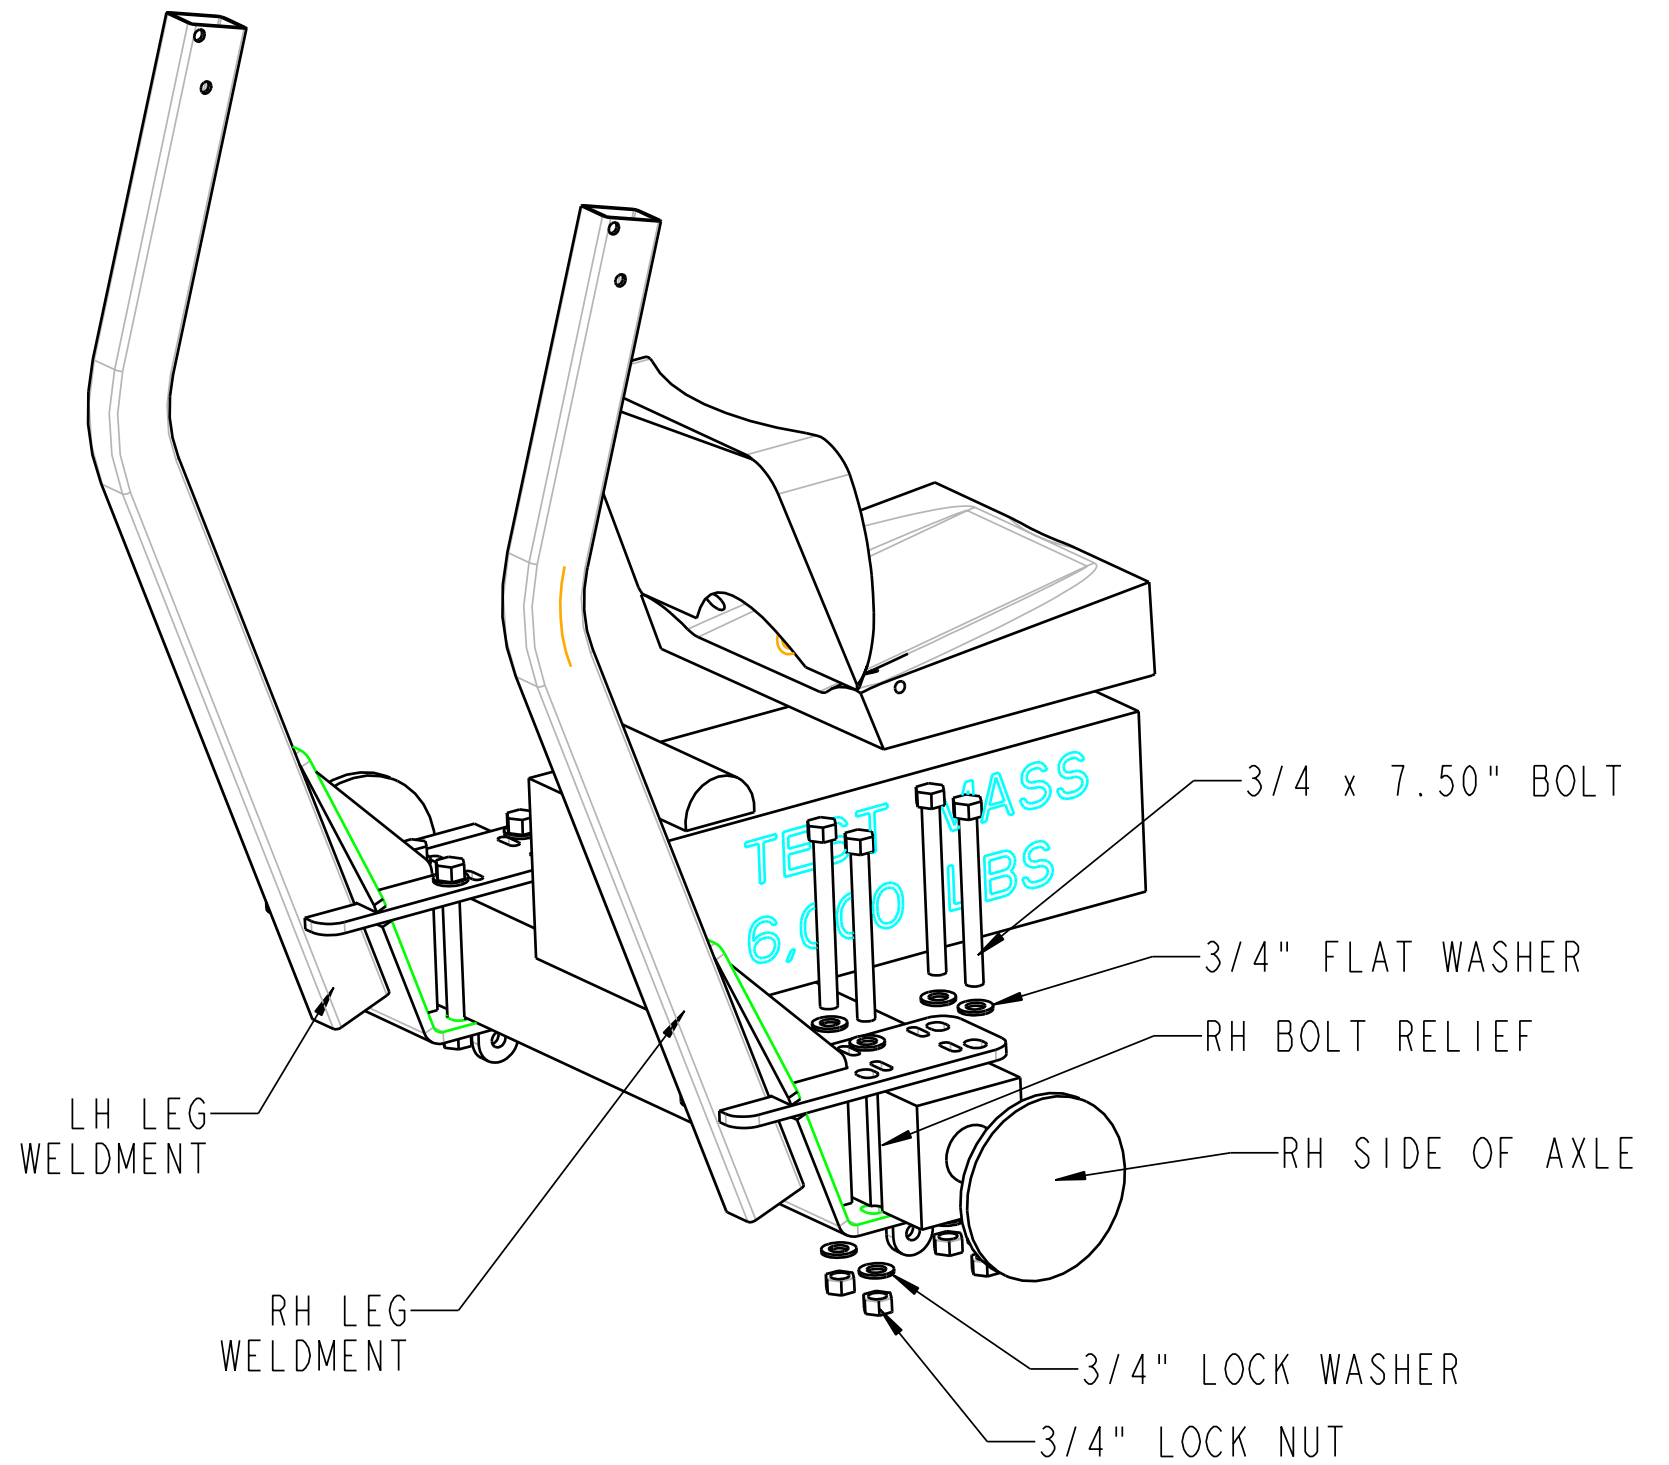

FIGURE 1B
- 4) Locate the bolt reliefs on each side of the axle casting. Align right hand leg weldment with right side bolt relief's on axle. Secure using (4) $\frac{3}{4}$ - x 7.50" long bolts, (8) $\frac{3}{4}$ " flat washers and (4) $\frac{3}{4}$ " lock nuts, supplied with the ROPS hardware kit. See Figure 1B.